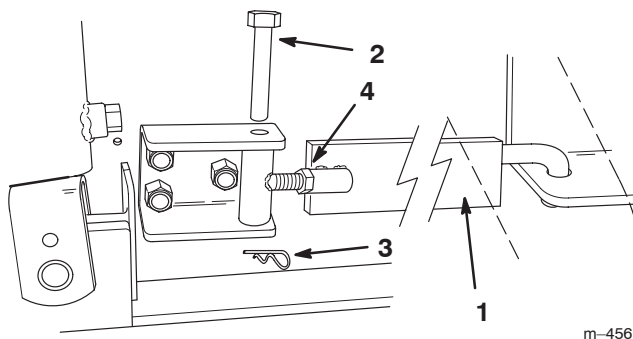

Figure 12
9. If you are installing the backhoe on a Dingo 200/300 series traction unit, install the side bars on each side as illustrated in Figure 12. The decal on each side bar must be visible when installed.
Important If the bars do not fit snugly, remove them, loosen the jam nut, and thread the compound side bar together or apart as needed to ensure that they fit as tight as possible (Fig. 12). Tighten the jam nut when finished.
- A. Remove the hairpin cotters and pins securing the side bars and remove the side bars (Fig. 12).